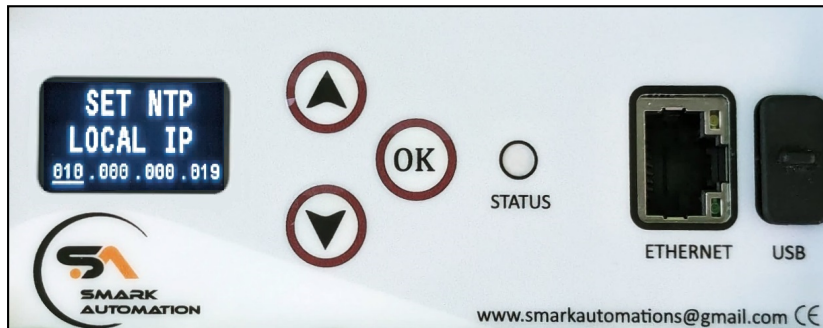

Figure 15: Configuring Local NTP IP
- **Local NTP:** Select this option to sync with a Local NTP server. The user will need to enter the IP address of the Local NTP server. Once the IP address is entered, as shown in Fig 15, the user will be prompted to select the GMT Shift, as chosen for Internet Time. A confirmation message will then appear: "Saving Time Config".